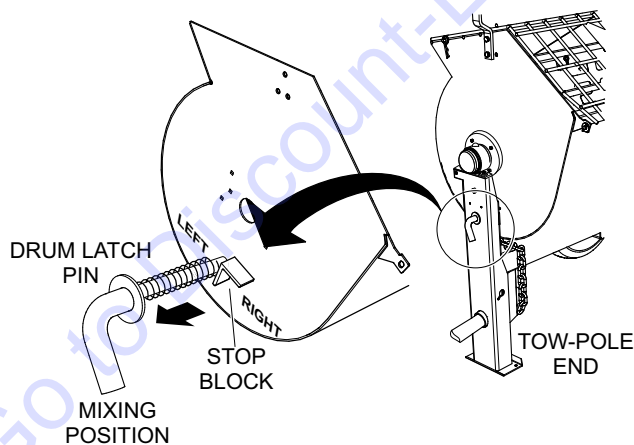

Figure 22. Drum Lock Pin (Mix Position)
- Pull the drum latch pin (Figure 22) and place on the **left-side** (mixing position) of the stop block. Stop block is welded to the drum.
To prevent the drum from tipping, make certain the drum lock pin (Figure 22) is placed to the **RIGHT** (when viewing the mixer from the tow-pole end) of the drum stop block which is welded to the front side of the drum. Also make sure lock pin is fully engaged (locked).